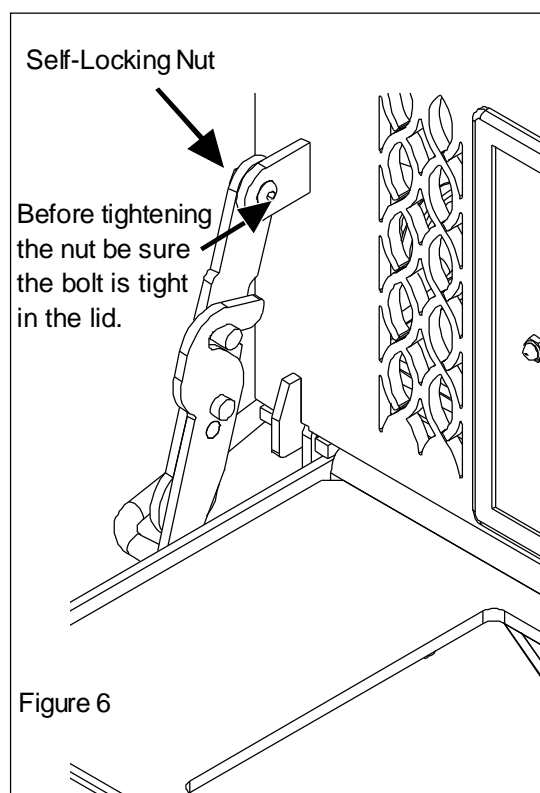

Figure 6
- Tighten the 1/4-20 x 5/8 button head allen bolt. Bolt into the tab on the underside of the top lid. This bolt can be tightened fully. (See Fig. 6 & 7)